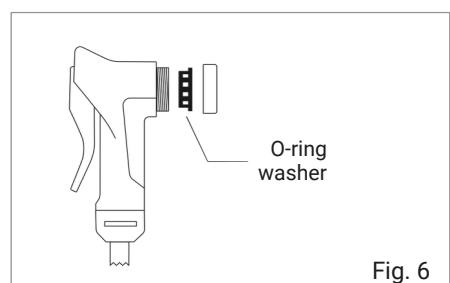

Fig. 6
- 1 Loosen the valve head nut (26) with the Veyhl tool (2) and replace the old valve head washer with the new one from the valve head washer spare parts set (Fig. 6). Then hand-tighten the valve head nut with the Veyhl tool.